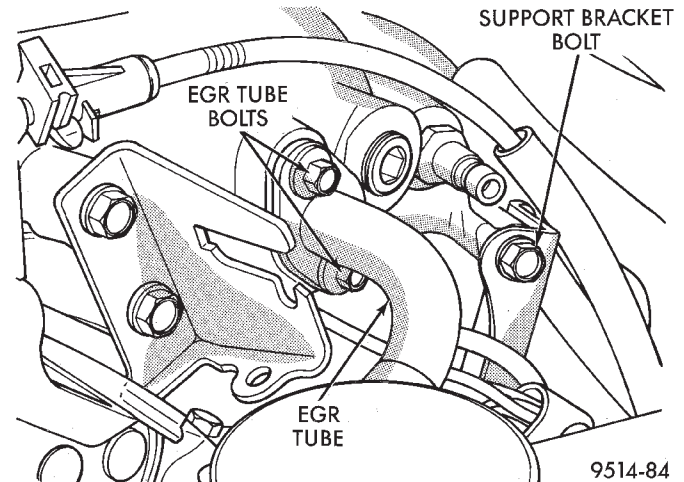

Fig. 41 EGR Tube and Right Manifold Support Bolt
- (11) Remove EGR tube from intake plenum (Fig. 41).
(12) Remove plenum support bracket bolt located rearward of EGR tube (Fig. 41).
(13) Remove bolts holding upper intake plenum and remove plenum.
(14) Always remove the ignition cable by grasping at the spark plug boot turning, the boot 1/2 turn and pulling straight back in a steady motion.
(15) Prior to removing the spark plug spray compressed air around the spark plug hole and the area around the spark plug.
(16) Remove the spark plug using a quality socket with a rubber or foam insert.
(17) Inspect the spark plug condition. Refer to Spark Plug Condition in this section.